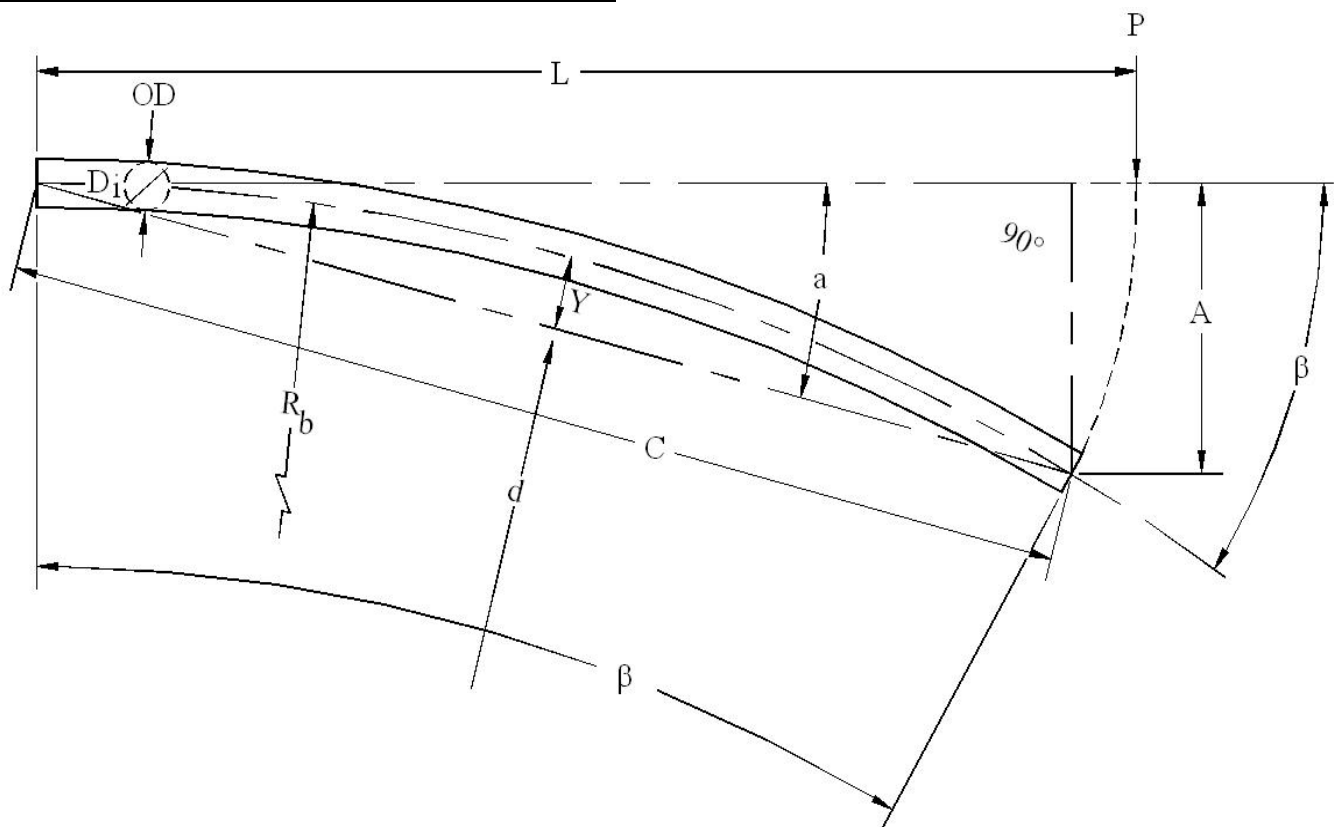

Figure 1: Longitudinal Bending Diagram is provided by the Uni-Bell PVC Pipe Association “Handbook of PVC Pipe Design and Construction”.
**1. Allowable Longitudinal Bending Method – Figure 1.**